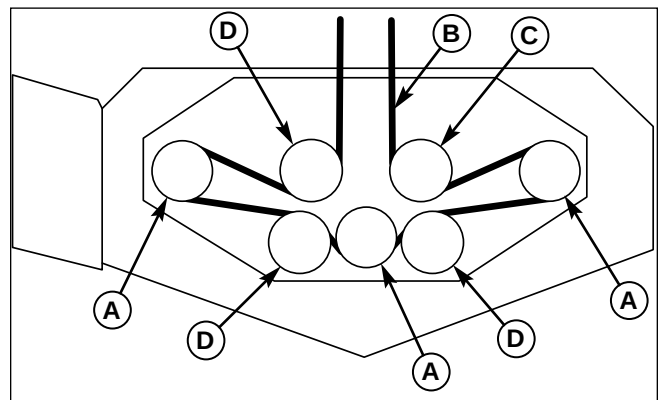

Figure 48. Mower PTO Belt Routing
4. Remove the old belt and replace with a new one. Make sure the V-side of the belt runs in the pulley grooves (Figure 48).